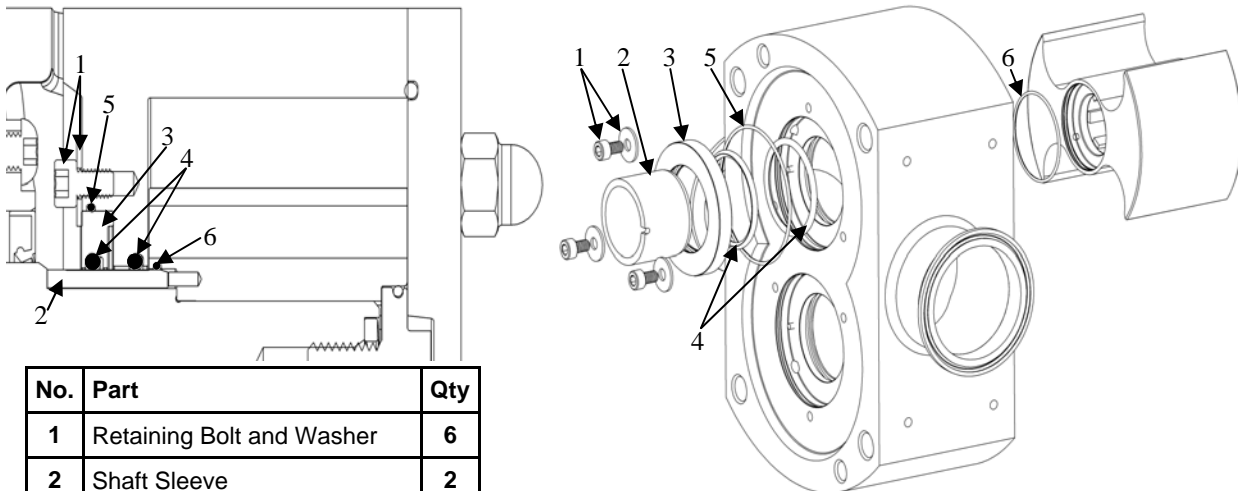
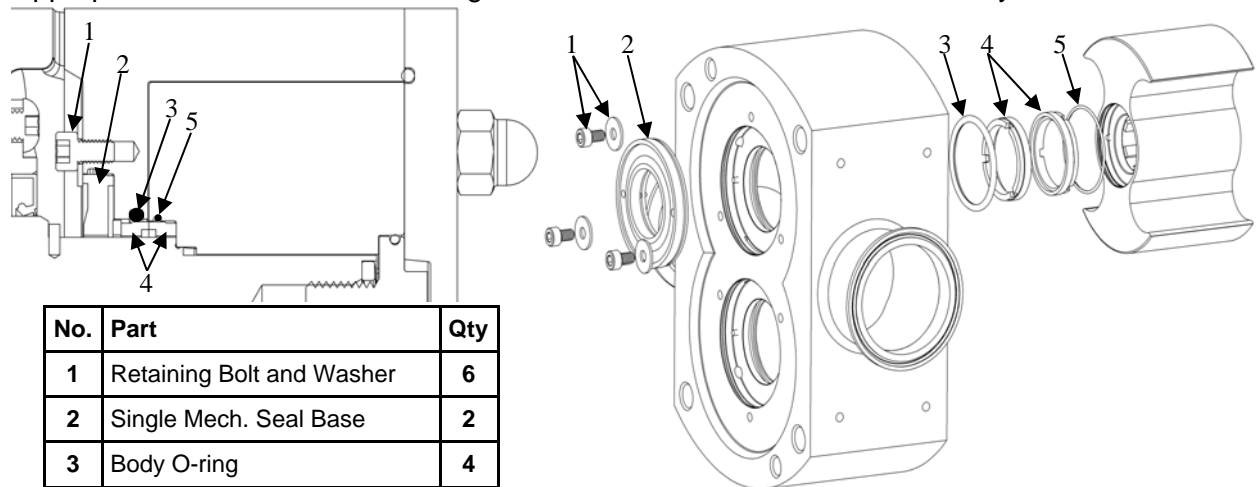

Figure 31: Double O-ring Seal
Figure 33: Single Mechanical Seal
Disassembly: The double o-ring seal option is shown in Figure 31. Remove the retaining bolts and washers using the appropriate driver and slide the o-ring carrier out of the body. Remove the o-rings from the body, o-ring carrier, and rotor (Figure 31, items 4, 5, 6). If damaged, replace o-rings. Slide the shaft sleeves off the shafts and inspect for damage. Do not re-use sleeves that are damaged (sleeve surface grooved or scratched).
*Disassembly:* The single mechanical seal option is shown in Figure 33. The AL single mechanical seal is designed to be front pull out without the need to remove the pump body. Using the o-ring tool provided by Ampco remove the mechanical seal from the rotor and body. Inspect the seals for chipping, scratches, or any evidence of cracks on the seal face (the mechanical seals are interchangeable). Remove the o-rings from the body and rotor (Figure 31, items 3, 5). If damaged, replace o-rings. If any of the seals are damaged do not re-use them. To remove the mechanical seal base loosen the retaining bolts and washers using the appropriate driver and slide the single mechanical seal bases out of the body.